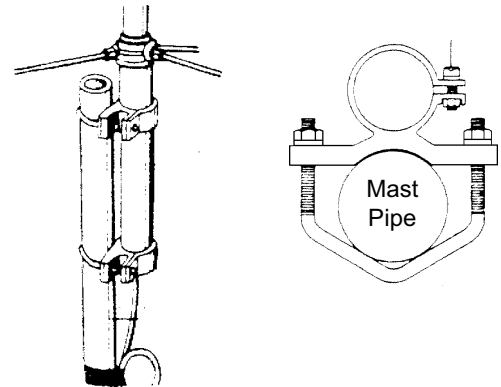

Figure 6
- (8) Attach antenna to antenna mast using brackets and hardware kit (figure 6). We suggest mounting one turn of coaxial cable of approximately 10" diameter directly beneath the antenna. This will act as an isolation choke. The coil diameter is not critical—Note: Some cable require a larger diameter coil to prevent movement of center conductor. Tape coil to mast (Figure 6).